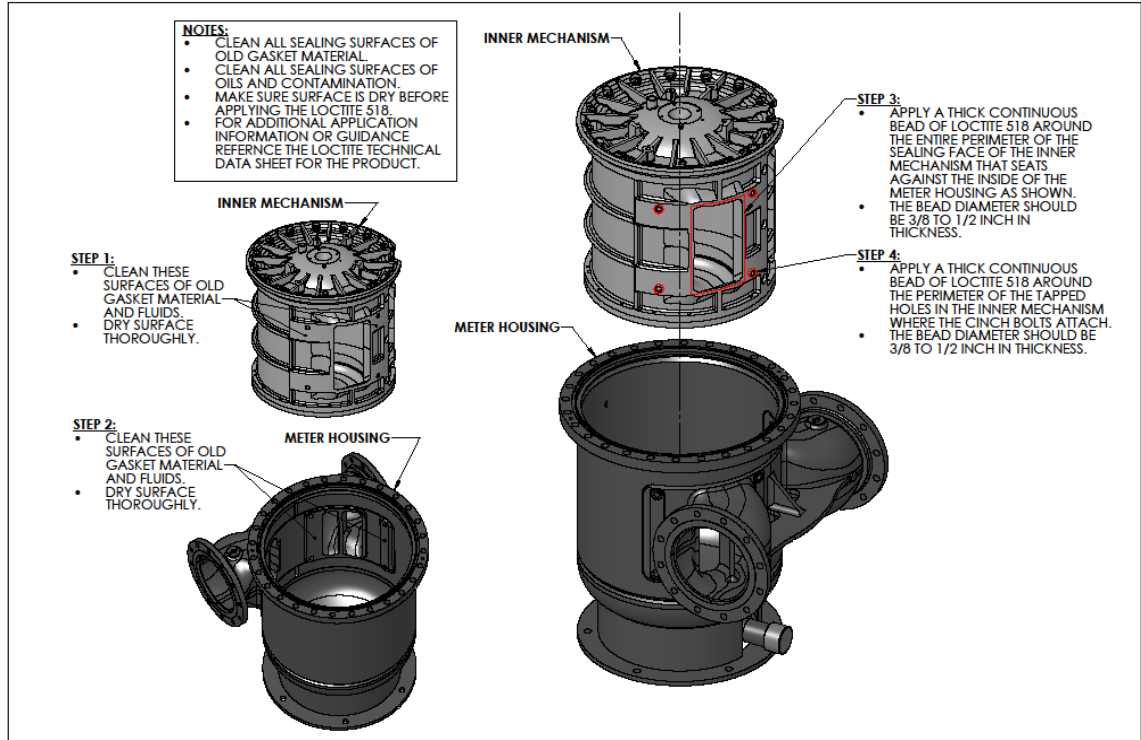

Figure 61 – Inner mech sealing
- Coat both surfaces with Loctite 518 (see Figure 61).